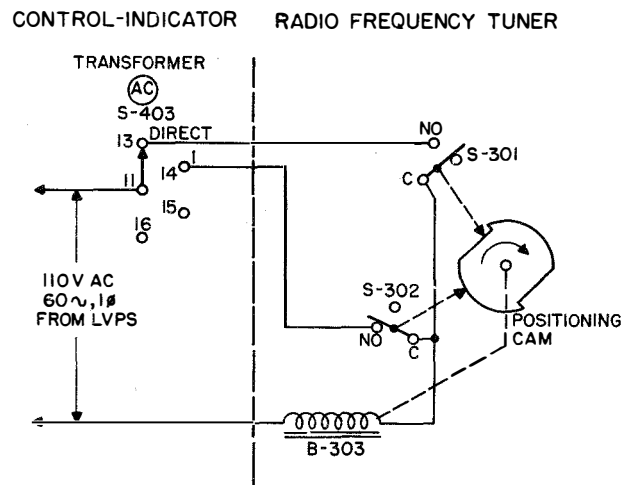

Figure 2-45. Transformer (AC) Switch S-403, Control Circuit, Simplified Schematic
(4) TRANSFORMER (AC) SWITCH S-403 CONTROL CIRCUIT.—TRANSFORMER (AC) switch S-403 (figure 2-45) functions in the same manner as ANTENNA COUPLER LOADING (AD) switch S-404, described in the previous paragraph. S-403 controls the position of actuator B-303 in the radio frequency tuner; B-303 in turn positions the transformer switch in the tuner that connects or removes an impedance transformer in series with the r-f transmission line. The requirement of the impedance transformer is discussed in paragraph 17b(2).